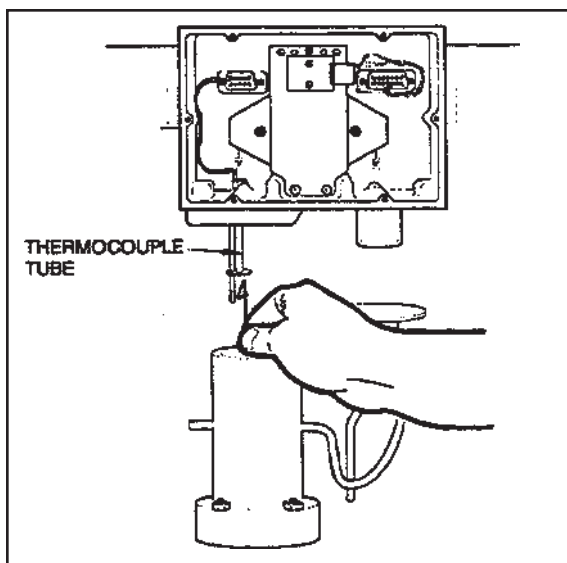

Figure 2.14
5. Carefully insert the bottom of the hangdown wire into the top of the furnace far enough so that you can insert the top of the wire into the thermocouple tube without bending the wire (Figure 2.14).
6. Thread the hang-down wire up through the thermocouple tube into the balance chamber, and hook the top of the wire over the top of the tube (see Fig. 2.14).